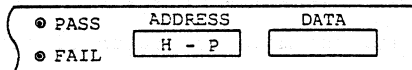

Fig. 5.1 Display in high-speed writing mode
- (1) Press the MODE SELECT switch. The PG-1000 panel display gives the writing mode currently selected as shown in Figures 5.1 and 5.2.